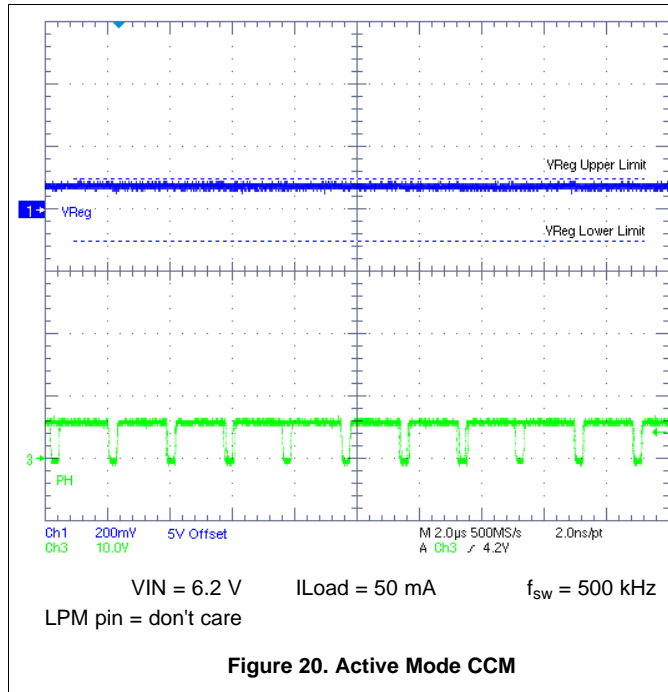

Figure 20. Active Mode CCM
- At low input voltages when V_{Reg} starts losing regulation and the OFF time (t_{OFF}) of the switching FET tends to be close to or slightly less than the minimum OFF time ($t_{OFF-Min}$). If OFF time is much smaller than $t_{OFF-Min}$, there is a risk that the part stops switching and regulation is lost until power is re-cycled with OFF time greater than $t_{OFF-Min}$. This mode of operation is shown in Figure 21. Comparing Figure 20 and Figure 21, pulse skipping occurs in Figure 21 but not in Figure 20 under similar output loading conditions.